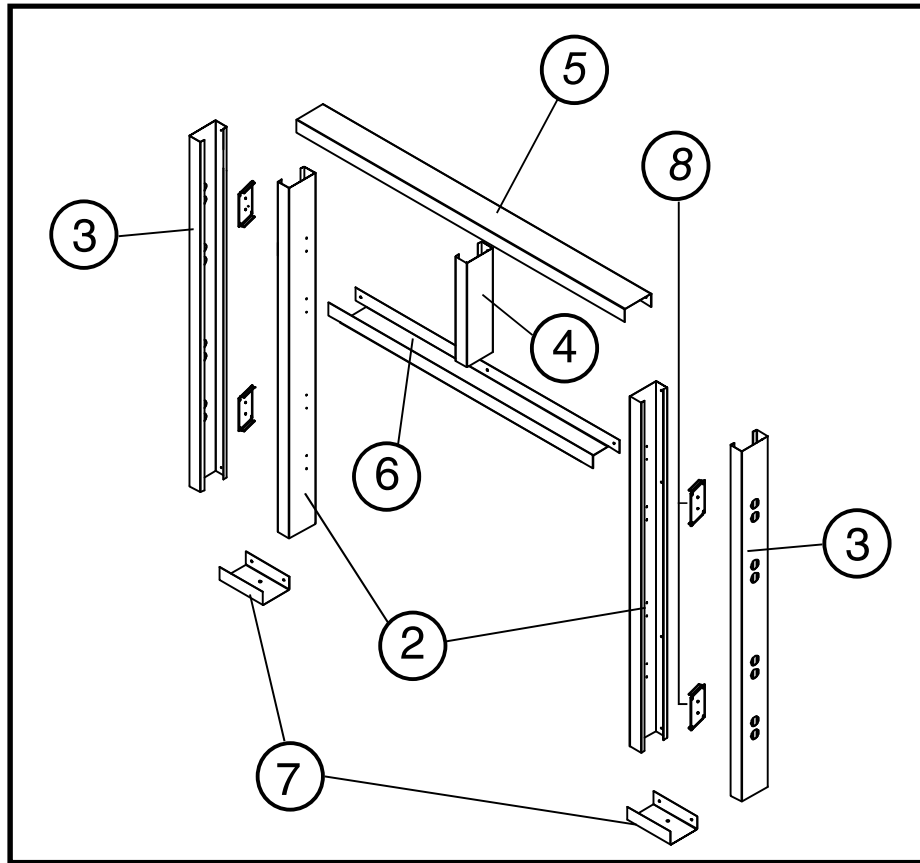

Figure 16: TC30 Framing kit parts.
1. Top Frame Assembly (Figure 16).
- Lay out side studs (2) and center stud (4) on a large flat surface.
- Using the screws provided (1), attach the header stud (5) and the plate stud (6) to the center stud (4).
2. Attach Side Studs (Figure 16).